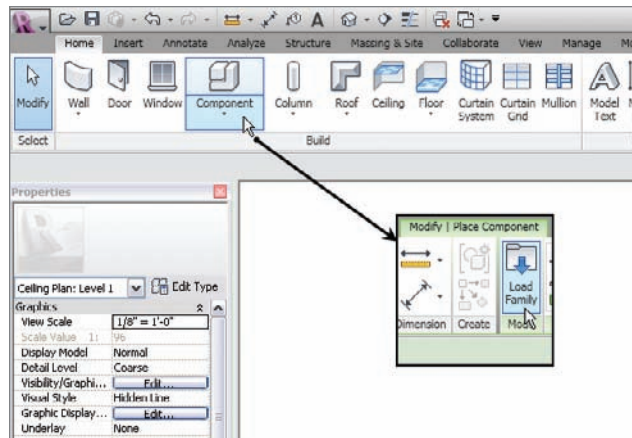

FIGURE 9.34 Click Place Component on the Home tab
2. On the Home tab, click Component > Place Component, as shown in Figure 9.34.